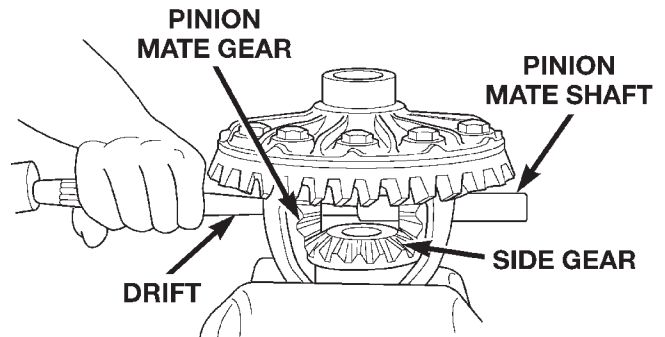

Fig. 65 Mate Shaft Removal
- (5) Remove the pinion gear mate shaft. If necessary, use a drift and hammer (Fig. 65).